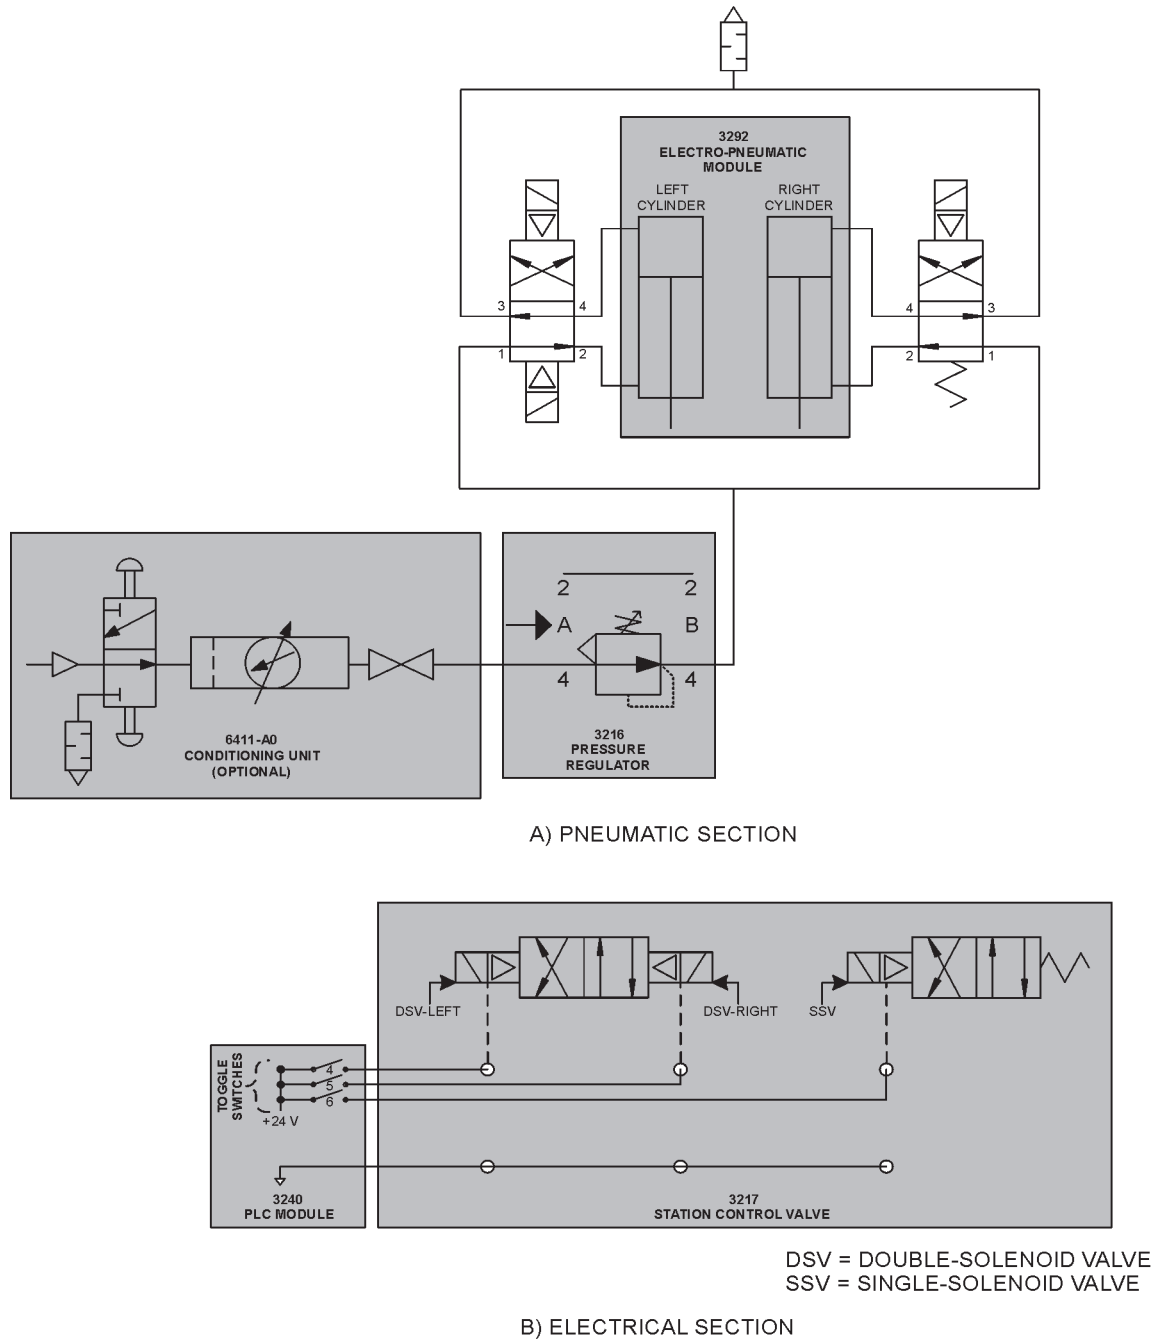

Figure 8. Pressure Regulator test circuit.
10. Install the Pressure Regulator and connect it to the pneumatic circuit according to Figure 8. Refer to Table 1 for the Station Control Valve electrical connections.